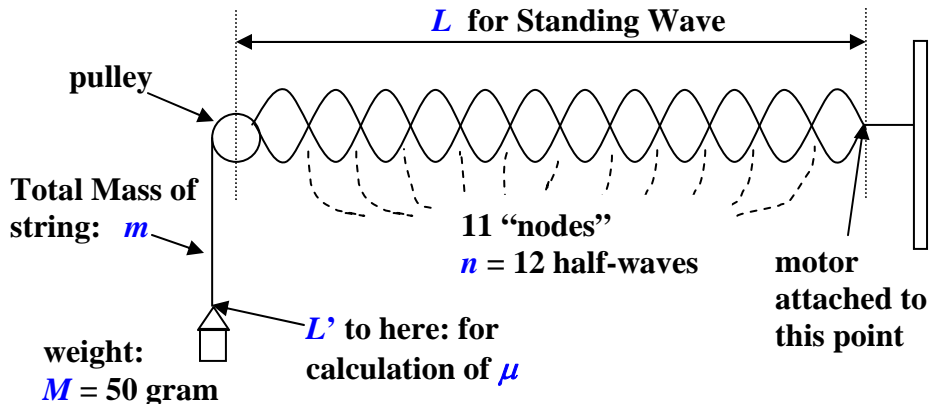

Fig. 2
In this part you excite **standing waves** on the rubber band at resonance frequencies f_n (n is the **number of half waves** fitting into the string – see Fig. 2 above) and deduce from a graph of f_n vs n the travelling wave velocity, comparing it to Part I.
Determine the mass m and the length L' (see Fig. 2) of the rubber band while it is **under tension** with a suspended weight of $M = 50$ grams. Assign an absolute error of 0.1 gram to m and an absolute error of 1 cm to L' if you have to estimate the amount of loops and knots in the band, otherwise smaller. Enter your values into the table on EQ1.
The rubber band is strung over a pulley from which the weight is suspended. A small electro motor on the other end of the band is driven by a variable power supply and provides the oscillatory driving force, which generates a traveling wave on the band. The wave is reflected back along the string at the pulley, and is reflected again at the vibrator. When the second reflected wave is in phase with the original wave, a standing wave pattern will be observed on the string as sketched in Fig. 2 above. **The distance between the nodes of the standing wave is one-half of the wavelength of the wave.** “Nodes” are points of destructive interference where the rubber band remains still and anti-nodes are points of constructive interference where the band oscillates with maximum amplitude.
Sketch on the grid in EQ5 a standing wave pattern for a wave with **several half-waves** fitting into the length L on Fig. 2. Label it with the number of half-waves, nodes and the length of the rubber band, using the correct symbol from Fig. 2. **Submit** the sketch to your TA for a **grade**.
Vary the frequency of the driving motor by varying the voltage from the power supply (see Fig. 1 above) and observe standing waves as sketched in Fig. 2, whenever the driving frequency is equal to a frequency, which obeys equation (4) on **PQ6**, the **allowed resonance frequencies** of the rubber band under tension. Once you have a stable pattern click the green icon “Collect” on the PC screen and take a few measurements.
Measure the length L (see Fig 2 above) with the ruler, estimate its error and enter both on **EQ6**. Establish **at least 7 consecutive resonance frequencies** f_n and enter the values of 7 of them, together with the number of half waves n , on **EQ6**. Graph f_n vs n on the grid in **EQ7**. **Include** the point **(0,0)** as an error free point. Label **axes, scales** and horizontal and vertical **intervals** used for the measurement of the slope k and its error Δk . Enter them on **EQ7**.